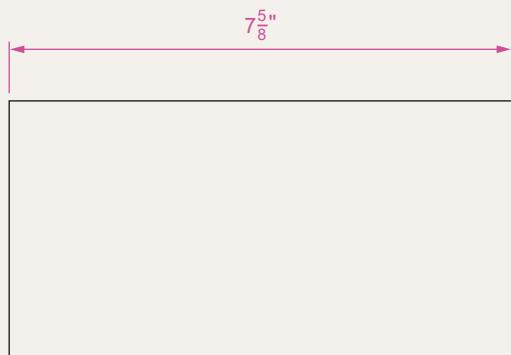

Fig. 2.29 Exercise 2
2. Construct the outline Fig. 2.29 using the **Line** tool. The coordinate points of each corner of the rectangle will need to be calculated from the lengths of the lines between the corners.